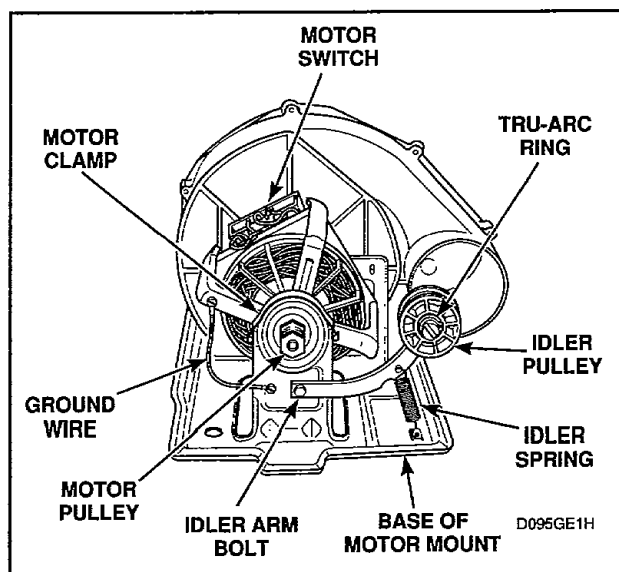

Figure 35
Refer to *Figure 35* for motor and idler pulley removal.
- (2) Disconnect ground wire from motor, *Figure 35*.
- (3) Use a screwdriver and pry two motor clamps off motor mounting bracket, *Figure 35*. Then lift motor out of mounting bracket.
**NOTE:** When replacing motor, motor switch location should be at 10 o'clock position (viewed from pulley end, *Figure 35*) with the anti-rotating notch (located on the front and rear cradles) in the motor mounting bracket.